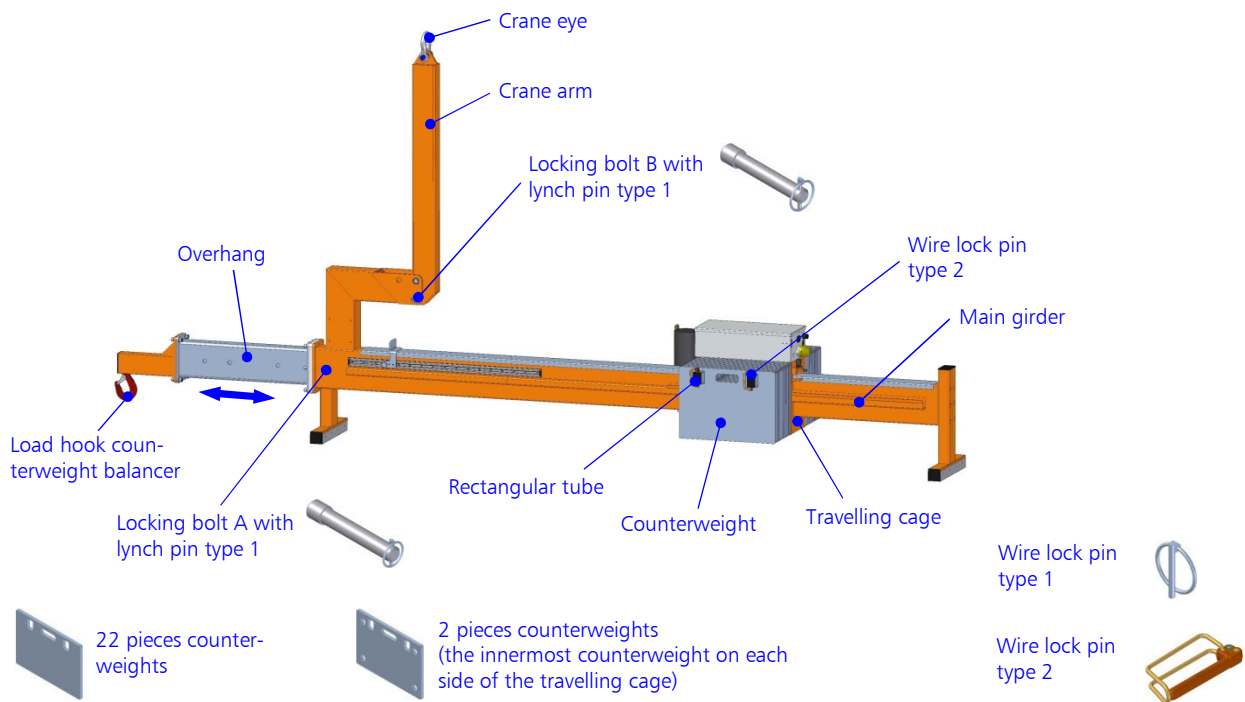

Fig. 9: Counterweight balancer mounted
3. Remove the locking bolt B with lynch pin type 1 (s. fig. 9).
- If you have not already done so, swivel the crane arm of the counterweight balancer upwards by 90° and fix it with the locking bolt B with lynch pin type 1 (see fig. 9).
1. Remove the four type 2 lynch pins (s. fig. 9).